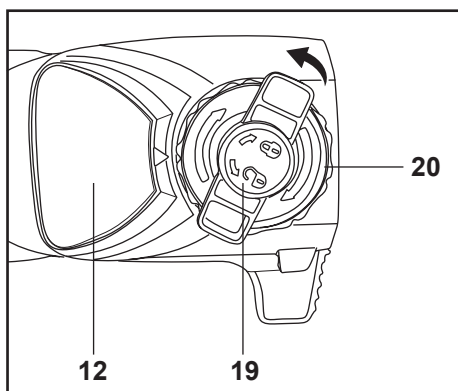

Fig. 5
- Use only a guide bar (13) and saw chain (14) according to the technical data of the pole saw.
- Place the product on a suitable flat surface with the side cover (12) facing upwards.
- Unscrew the locking wheel (19) in direction  and then remove it together with the side cove (12). (Fig.5)